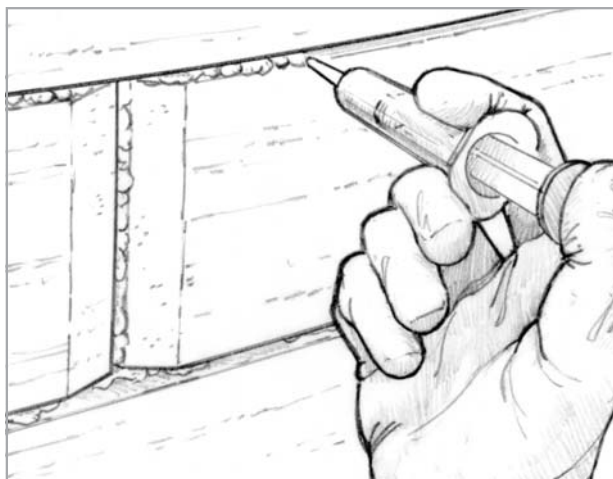

Figure 5-5 Inject epoxy into the wet-out seam.
6. After the epoxy cures thoroughly, remove the excess portion of the spline with a plane followed by coarse sandpaper (*Figure 5-5*). Fill the vertical seams and any remaining voids with epoxy/407 fairing compound before final fairing and finishing.